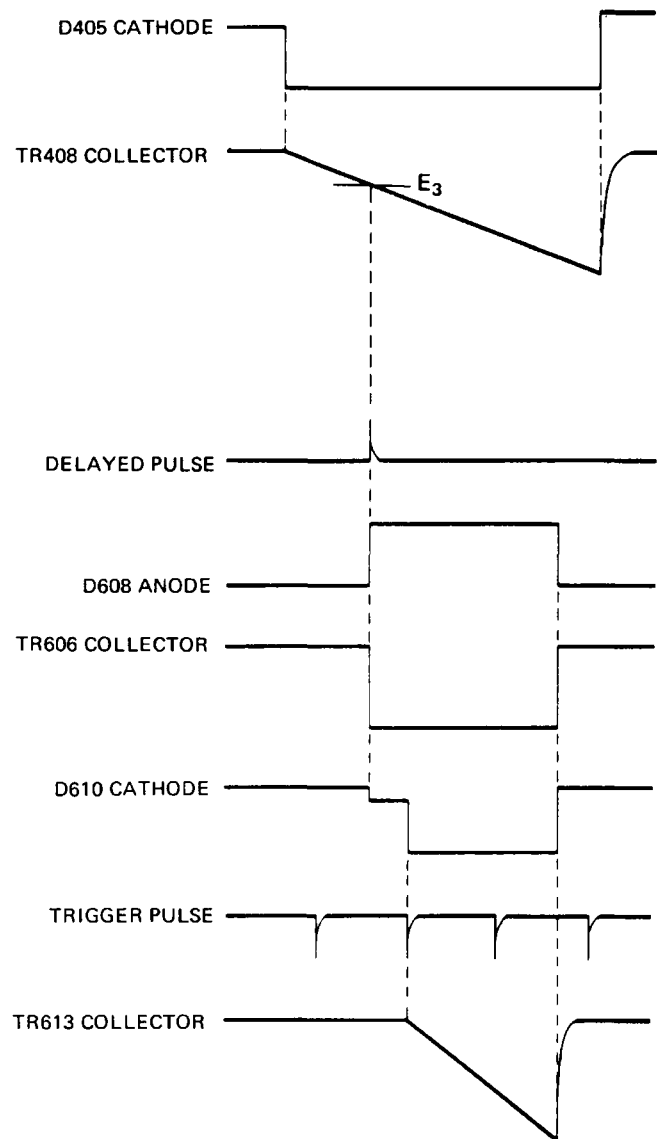

Figure 3-24 Waveforms, A INTEN BY B Sweep Mode
In the A INTEN BY B (and DLY'D (B) sweep which will be described later) operation, the B sweep always starts after the A sweep, however the duration of the two sweeps usually differs. When the A sweep ends before the B sweep, the B sweep is terminated with the end of the A sweep. A case where the B sweep ends faster than the A sweep will now be described. Waveforms in this mode of operation are shown in Figure 3-24. The B Sweep Generator, as previously described, operates in a manner similar to single sweep operation in the